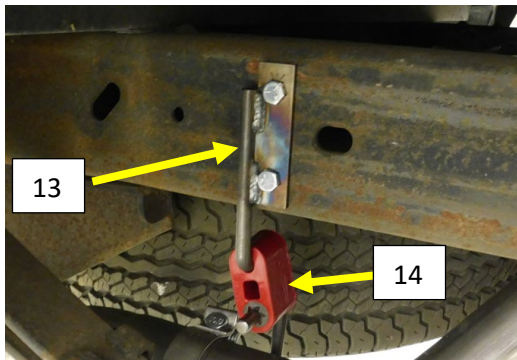
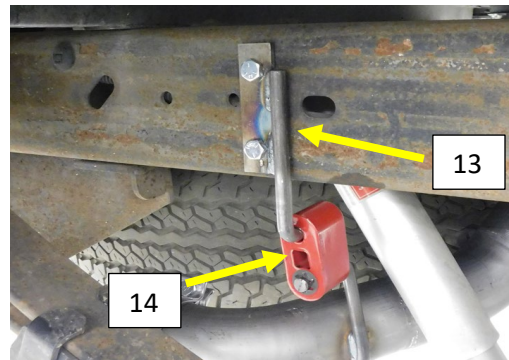

Figure.4
Figure.5
2. Install the supplied tail pipe frame hangers 166HA (13) Right and Left on to the frame rails just behind the rear tire using the existing holes in the frame and Supplied 3/8 hardware. Install the supplied red rubber Isolators (14). Fig.4, Fig.5